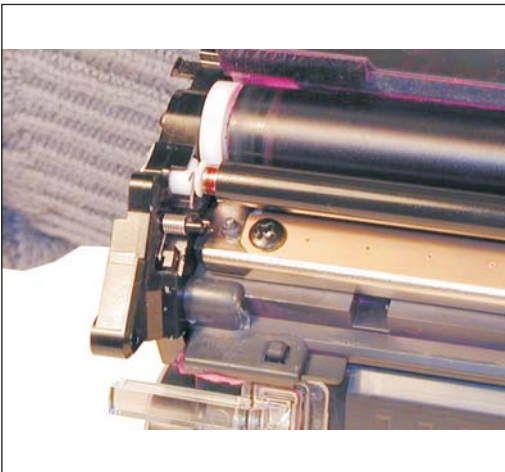

Figure 83
53) Install the remaining end cap. Watch to make sure the white bushing on the opposite side does not fall off when fitting the remaining end cap on. If it does, lift up the spring and press the bushing back in. Make sure the toner charge roller fits properly. Use the two gold colored screws. See Figures 83, 84 & 85